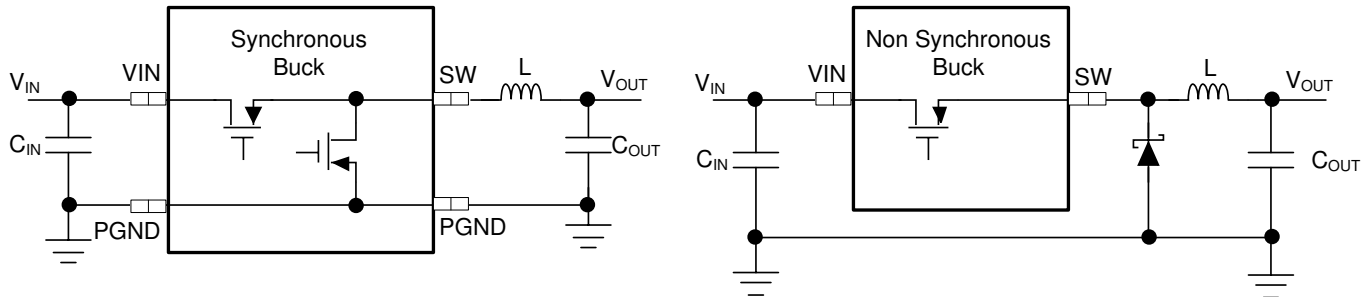

Figure 8-1. Simplified Synchronous versus Non-synchronous Buck Converters
The LM73605-Q1/6-Q1 synchronous buck with both power MOSFETs integrated in the device. Figure 8-1 shows a simplified schematic for synchronous and non-synchronous buck converters. The synchronous buck integrates both high-side (HS) and low-side (LS) power MOSFETs. The non-synchronous buck integrates HS MOSFET and works with a discrete power diode as LS rectifier.